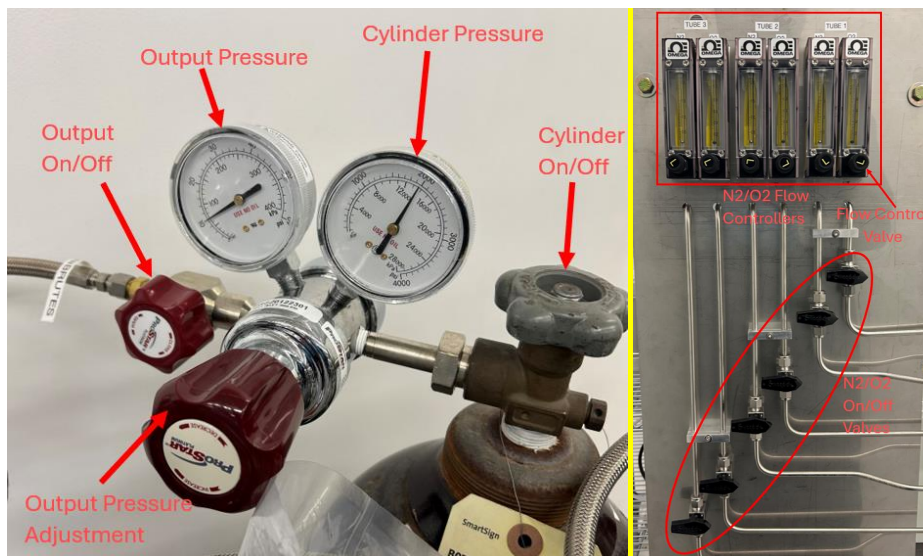

Figure 3: Gas Cylinder and Regulator Control (left) & N₂/O₂ Gas Supply Control (right)
- i. **Open the N₂ gas cylinder (Figure 3).**
- ii. **Open the N₂ supply valve for the desired tube (Figure 3).**
- a. Open the valve for the desired gas and tube (Figure 3).